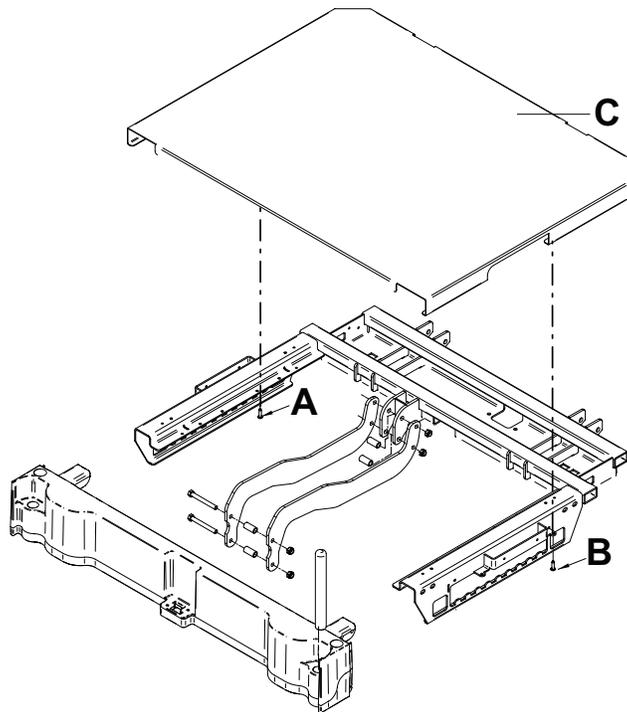

Figure 63 – Remove the cover
5. Using a #2 Phillips screwdriver, remove the two screws (A and B) that secure the electrical cover (C) (Figure 63). Remove the cover. Save the screws.